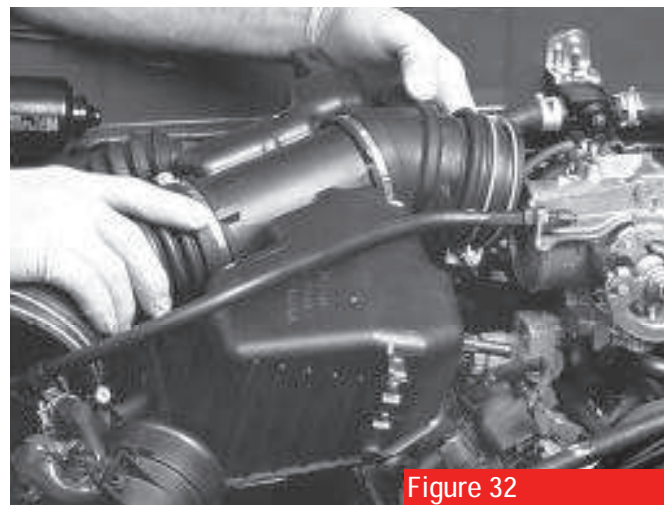

Figure 32
5. Install the air inlet tube to the throttle body and Mass Air Flow Sensor and reconnect its hoses and tubes. Be careful not to damage the sensor (figure 32).